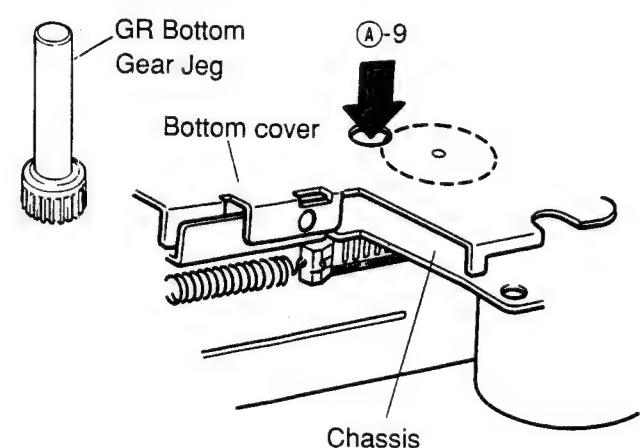

Figure 4
- (12) Since the hooks marked ④-8 will be lifted slightly as shown in Figure 4, insert the jig through the hole ④-9, and fix it turning the jig slightly in the direction ④-11.
(Refer to Figures 4 and 5.)
(14) Insert the jig into the hole ④-9 as shown in Figure and rotate the eject solenoid counterclockwise about 20 times, pulling it in the direction ④-10 with the finger. Then the eject operation is completed. Instead of operation (14), the eject operation can be performed by mounting the mechanism to the product. (Refer to Figures 4 and 5.)